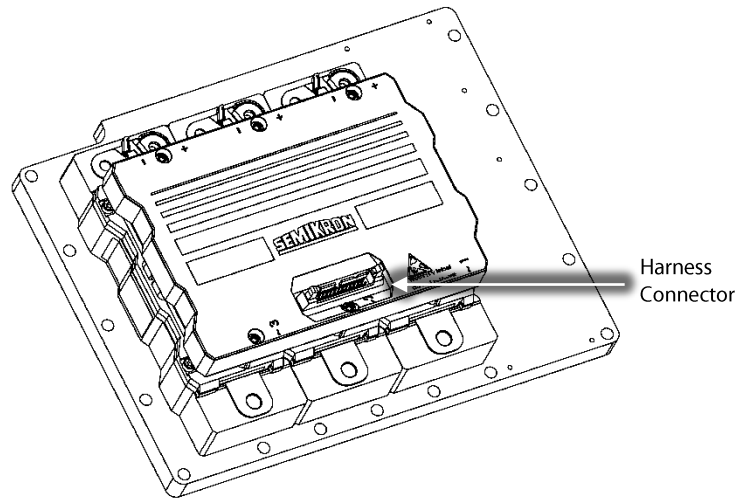

Figure 15 – Inverter Harness Removal
24. Remove the Inverter cable harness from the top of the Inverter. Refer to Figure 15 (Inverter Harness Removal).